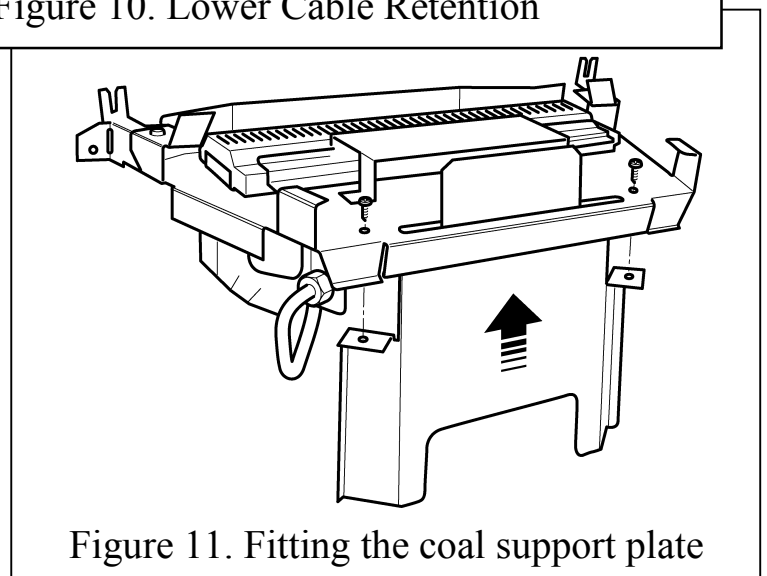

Figure 11. Fitting the coal support plate
5.4.1 Prior to installation of the burner the coal matrix support plate must be fitted (See figure 11). Two self-tapping screws retain the plate.